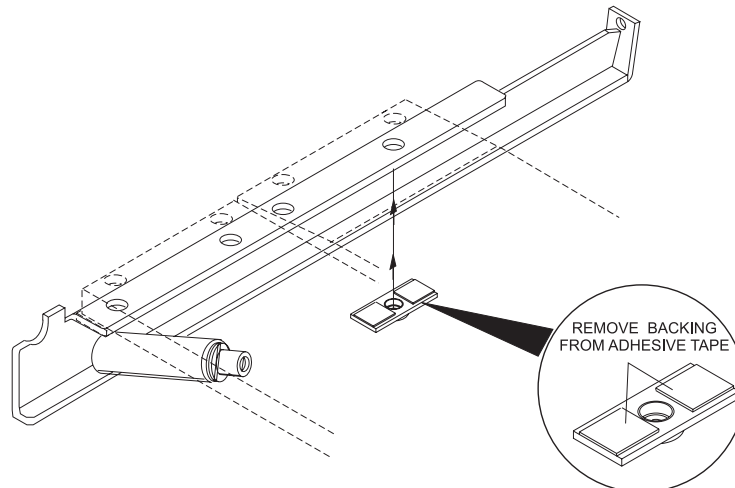

Figure 4
2. The side frame repair nut, part number 47-276153-000, has adhesive to temporarily hold it in place until the T-band board bolt is secured. Refer to Figure 4.